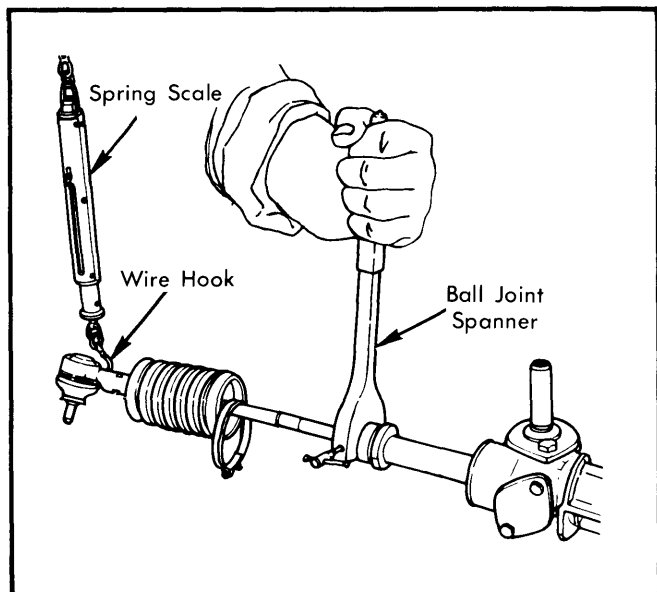

Fig. 2 Checking Tie Rod Effort
3) Grease tie rod ball and seat and assemble on end of rack. Tighten ball seat until effort required to move tie rod is 5.1 lbs. (2.3 kg) when measured  $\frac{1}{4}$ " (6.0 mm) from end of rod. See Fig. 2.